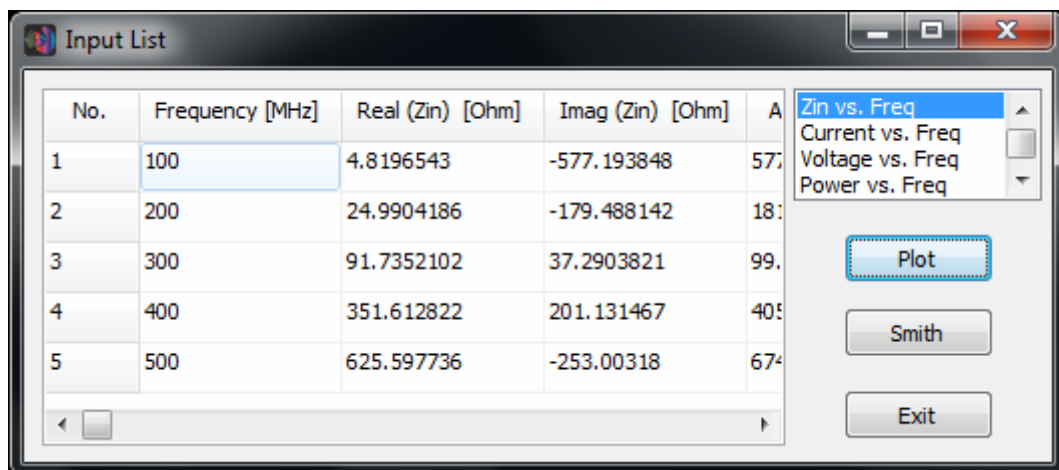

Fig. 13.7: The Input List dialog box.
If the selected segment has a source on it, the Input List button is enabled. Pressing this button displays the Input List dialog box, Fig. 13.7. This dialog box shows the list of input impedances, admittances, currents, voltages and powers in the selected segment versus frequency. Clicking on an item in the list and pressing the Plot button will plot the chosen item as a function of frequency. The input impedance can be shown in a Smith chart by pressing the Smith button.
4. Press the Input List button to display the Input List dialog box, Fig. 13.7. This dialog box shows the list of input impedances, admittances, currents, voltages, powers, reflection coefficient, VSWR, return and transmission losses in the selected segment versus frequency. Selecting an item from the list and pressing the Plot button will plot the selected item as a function of frequency. The reference impedance for reflection and VSWR calculations is defined in the Settings panel of the Configure tabsheet. Besides, the input impedance can be plotted in a Smith chart by pressing the Smith button.
The input impedance as a function of frequency can be plotted in a Smith chart, which is accessible from the Input List dialog box, Fig. 13.7. By pressing the Smith button provided in this dialog box, the AN-Smith® program will be executed to plot the input impedance in a Smith chart. Therefore, follow the procedure described in the previous section for listing the input impedances versus frequency, and then press the Smith button in the List dialog box.